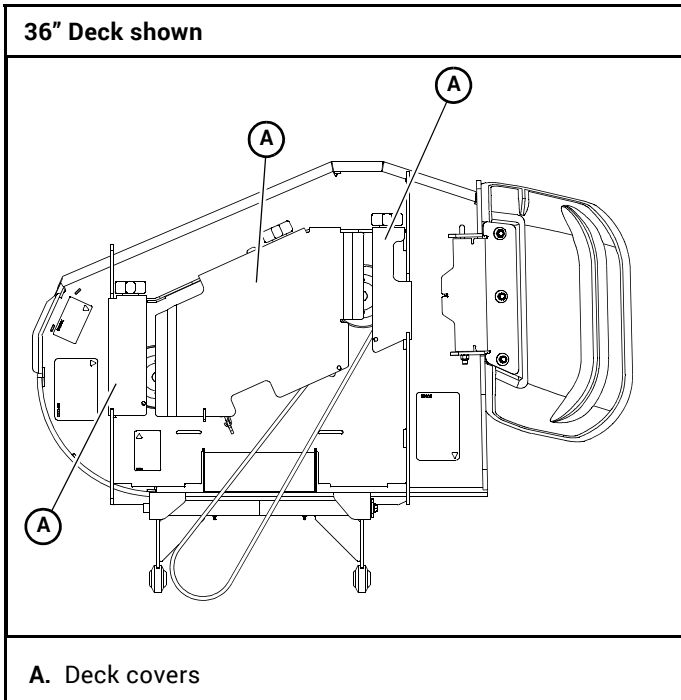

Figure 6-10
3. Remove the deck covers. Figure 6-10
11. Install the deck covers. Figure 6-10